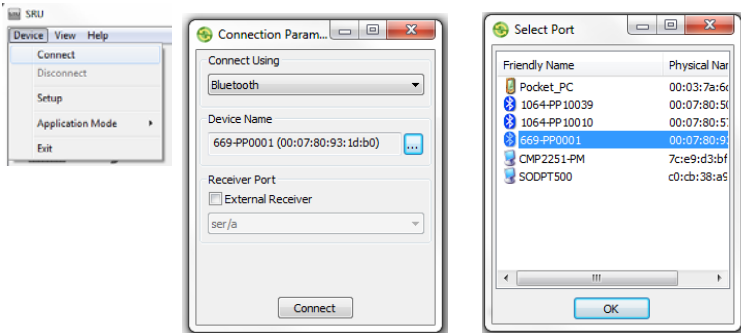

Figure 2-7. Searching for Bluetooth Devices
8. Press **Connect** (Figure 2-7).